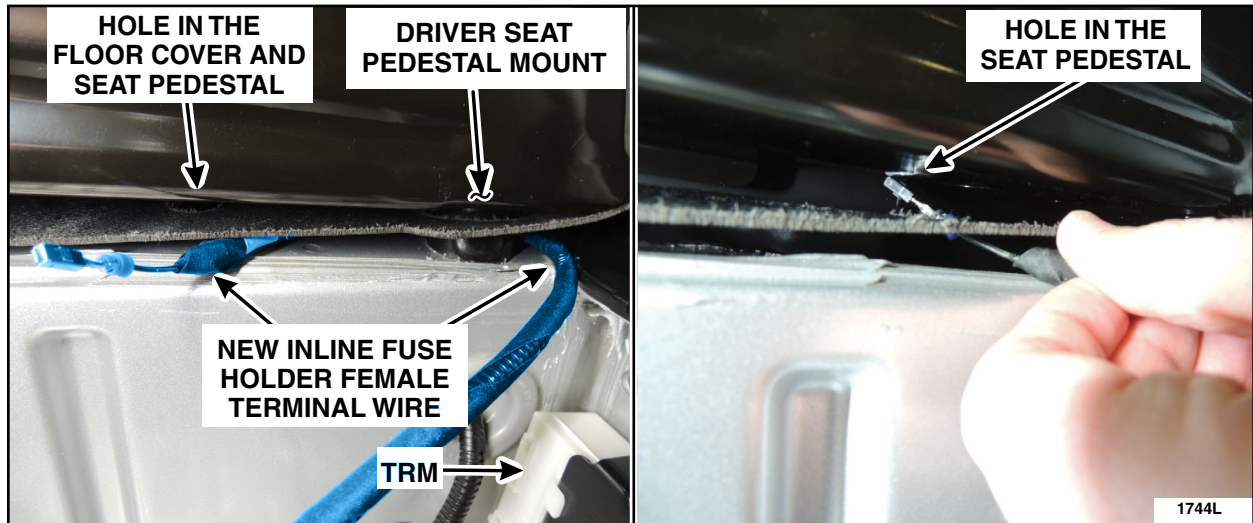

FIGURE 12
7. Route the *new* inline fuse holder female terminal wire (component B) under the floor cover, around the outboard rear side of the driver seat pedestal mount, and through the hole in the bottom of the pedestal mount. See Figure 12.